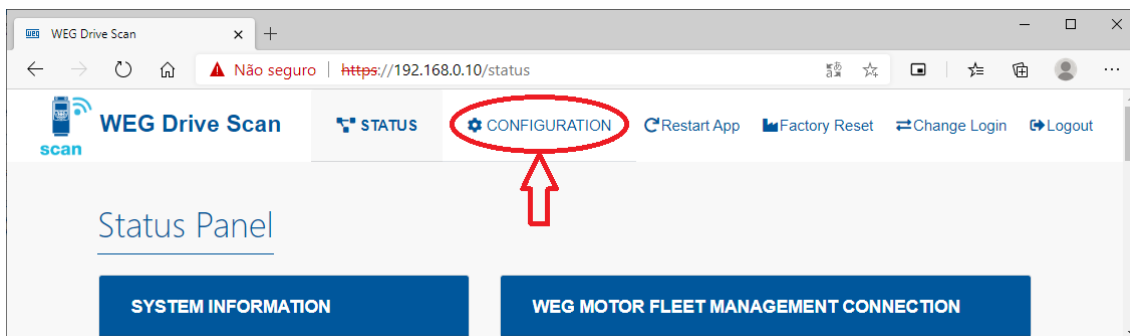

Figura 7.6: Status do WEGscan 1000
Passo 4 Clique na aba “Configuration”, conforme a Figura 7.6.